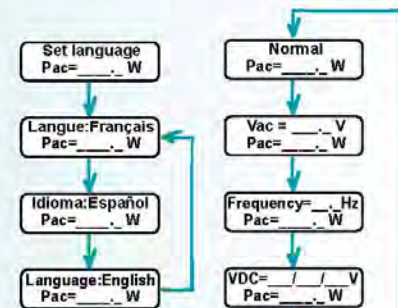

Fig. 15
- Repeatedly press the "Display" button until "Set language" is displayed (Fig. 15).